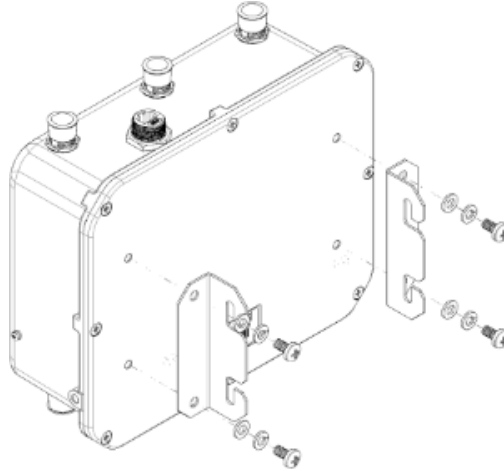

Figure 7 – Mounting brackets to the device
a) Figure 7 shows the required position of brackets.